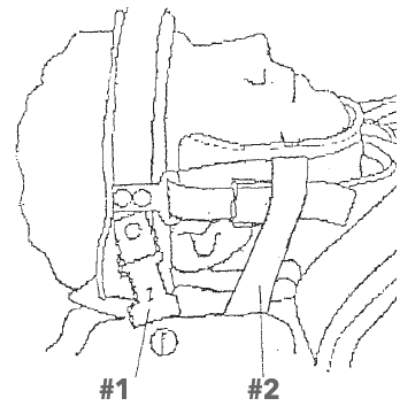

Figure 7: Attaching the occipital support
9. Apply the occipital support (FIGURE 7) by sliding it under the patient's head and fasten it snugly to the facemask using the four hook and pile straps. The inferior straps are routed through the chafes located on the lower part of the upright to prevent migration of the straps. Raise the patient to sitting position and make fine tuning adjustments as necessary. The facemask should be snug enough to limit teeth separation to not more than $\frac{1}{2}$ " when opening the jaw. A butterfly clip is supplied to keep the shoulder straps from migrating and is applied where the straps are crossed in the back.